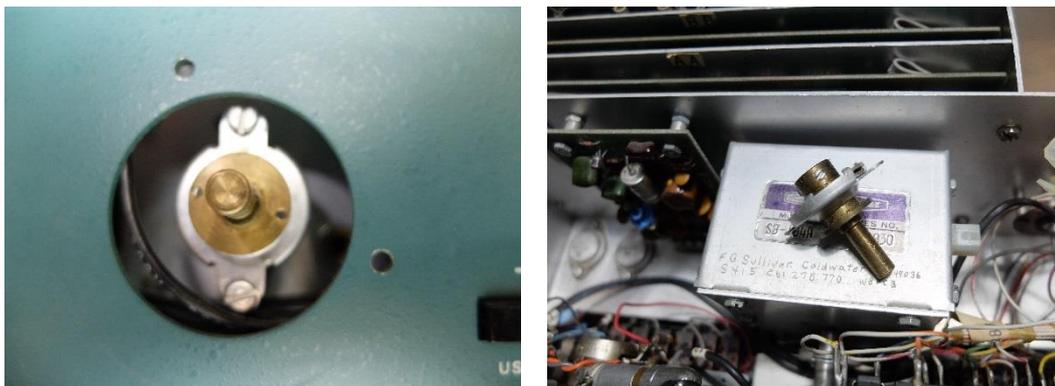

Figure 3 - Outer Shaft Coupler
- (1) Remove both top and bottom covers.
- (2) Unplug the 4-pin connector on the side of the VFO.
- (3) Remove the tuning knob.
- (4) Remove the outer tuning shaft coupler, see Figure 3 by carefully removing the two screws (save lock washers). Loosen the two shaft set screws and pull forward to remove.